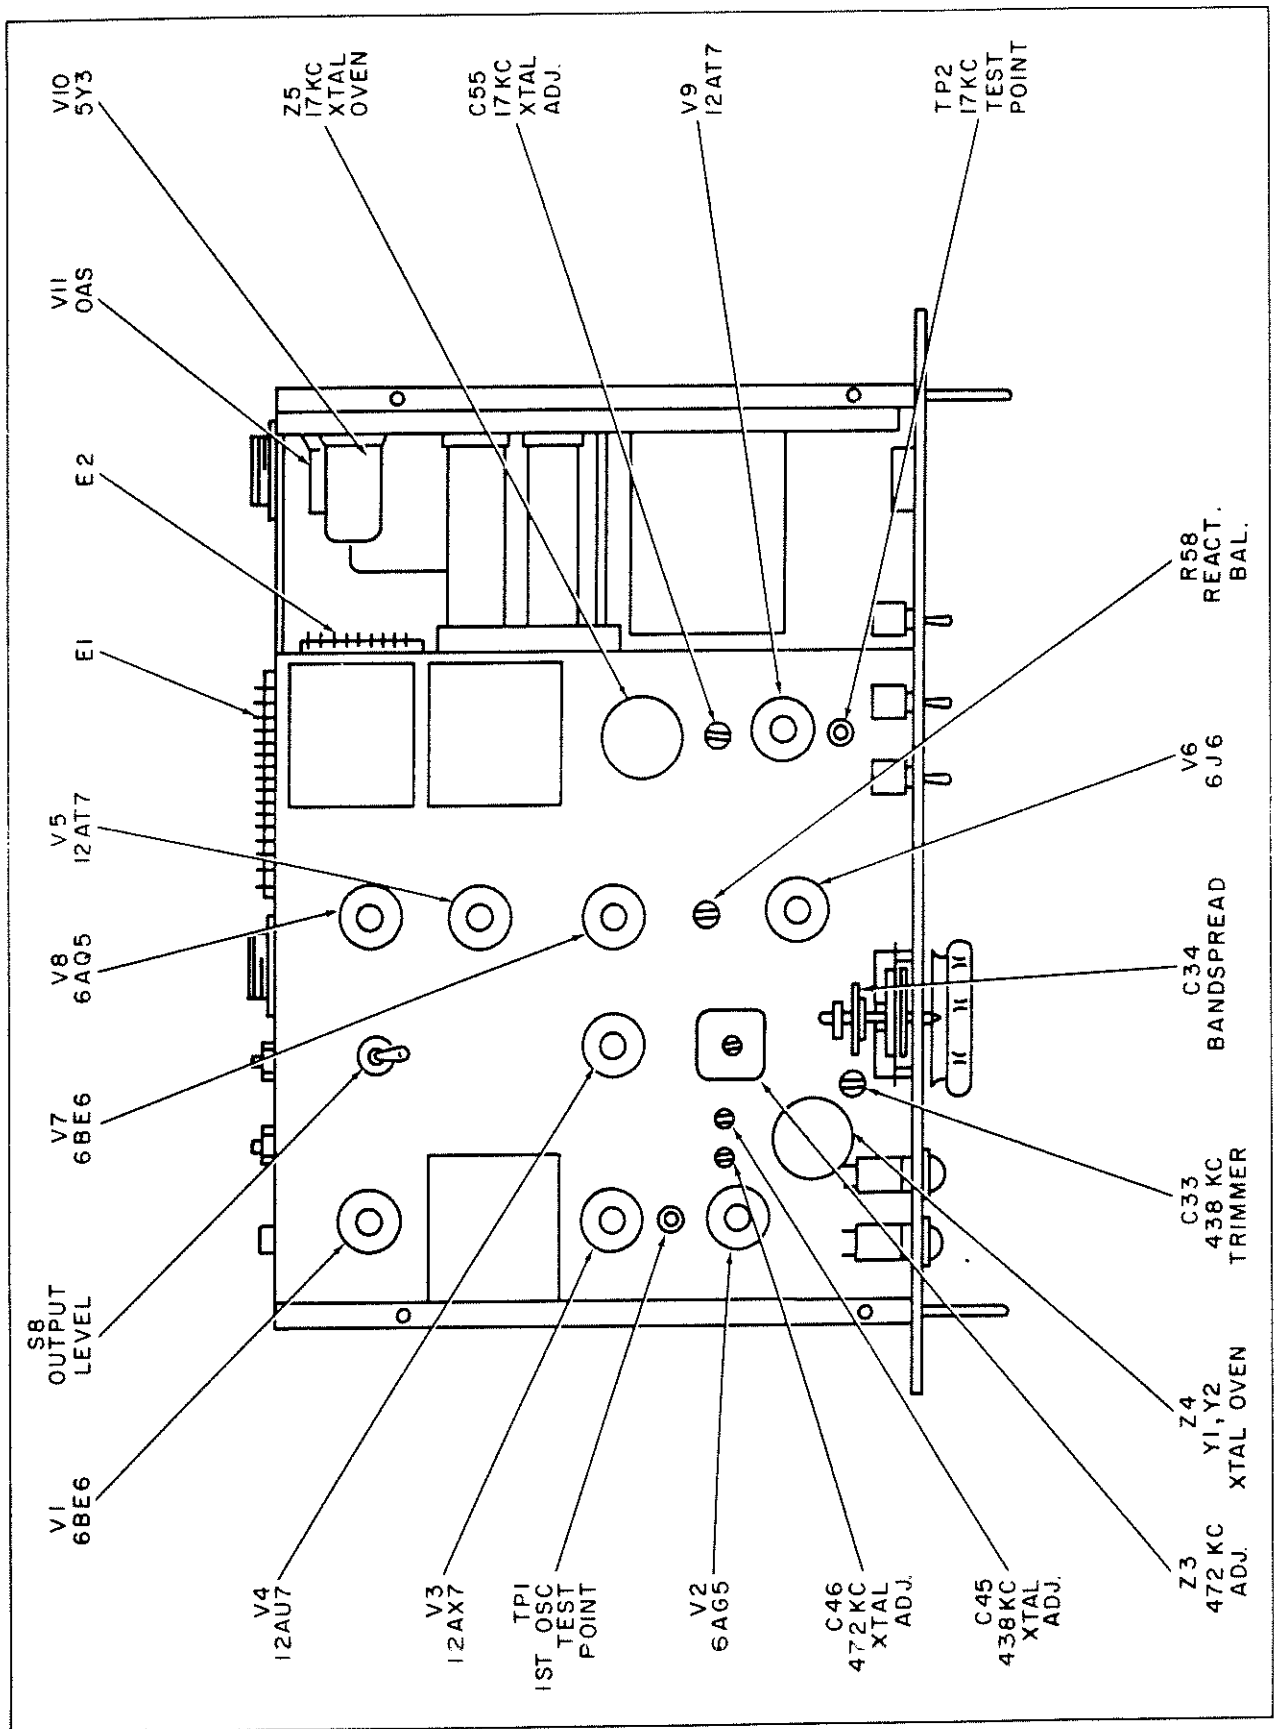

Figure 5-1. Component Layout MSR-9 Top View
- d. Component layout diagram (figure 5-1).